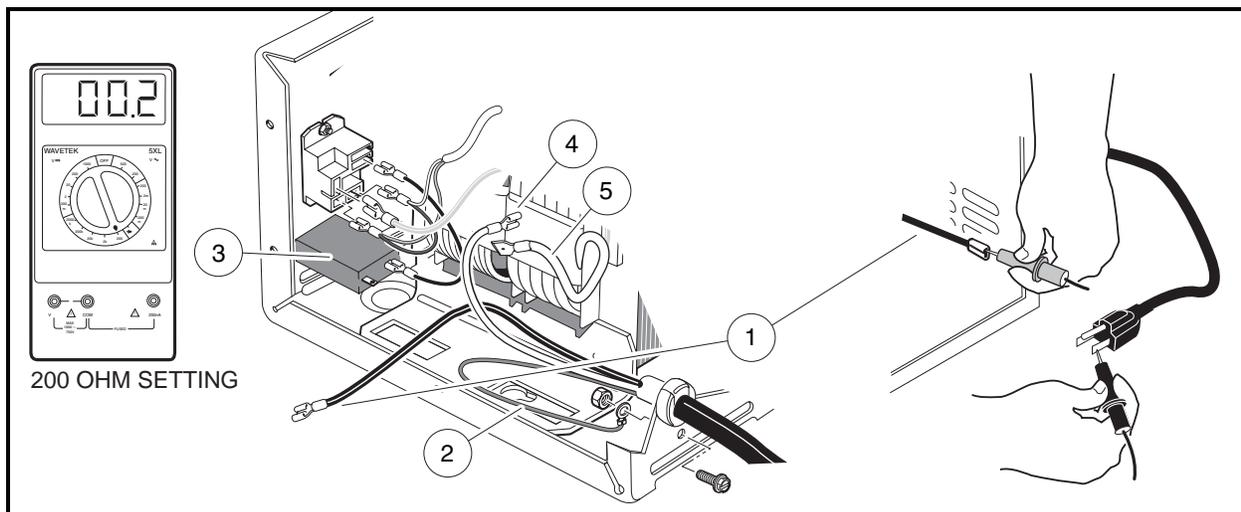

Figure 6-17 AC Cord and Plug Continuity Test
3. Disconnect the green wire (2) from charger case and position it so it does not touch any metal part of the charger (Figure 6-17, Page 6-20).
4. Disconnect the black wire (1) of AC cord from charger AC circuit breaker (3).
5. Disconnect the AC cord white wire (4) from the primary coil brown wire.
6. Using a multimeter set for 200 ohms, place the red (+) probe on the terminal at the end of the black wire (1). Test for continuity on each of the flat blades and then on the round pin of the AC plug. The tester should indicate continuity on one flat blade only. If any other reading is obtained, the AC cord and plug must be replaced.
7. Place the red (+) probe on the end of the green wire (2) and with the black probe check for continuity on both flat blades and on the round pin of the AC plug (**Figure 6-17, Page 6-20**). The tester should indicate continuity on only the round pin. If any other reading is obtained, the AC cord and plug must be replaced.
8. Place the red (+) probe on the white wire (4) and check for continuity on both flat blades and on the ground pin of the AC plug. The tester should indicate continuity on only one flat blade. If any other reading is obtained, the AC cord and plug must be replaced.